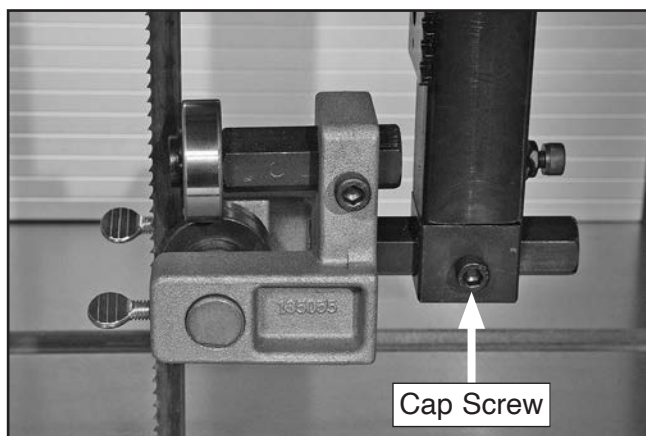
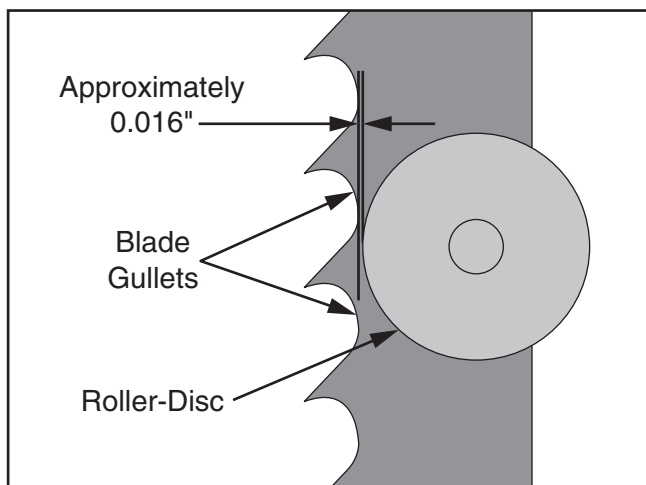

Figure 57. Location of guide block adjustment cap screw (guide post cover removed for clarity).
Figure 58. Roller-disc positioned just behind blade gullets.
2. Loosen guide block adjustment cap screw shown in **Figure 57**, then position roller-discs just behind blade gullets, as illustrated in **Figure 58**. Retighten cap screw to secure setting.